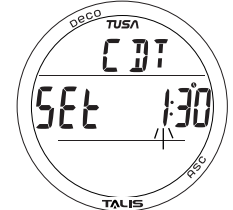

Fig. 91 - SET FREE CDT
**Set CDT**, information includes (Fig. 91):